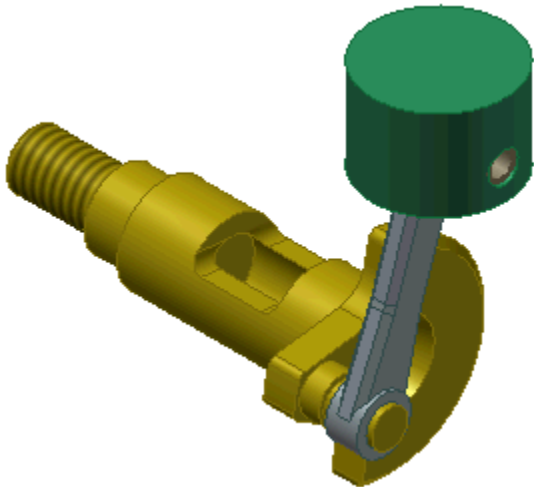

Figure 1: Assembly on opening.
- Click OK to import the assembly into the Presentation. The file should look like the one in Figure 1.